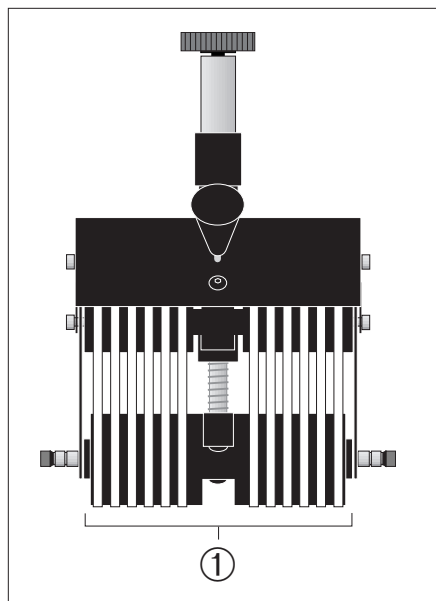
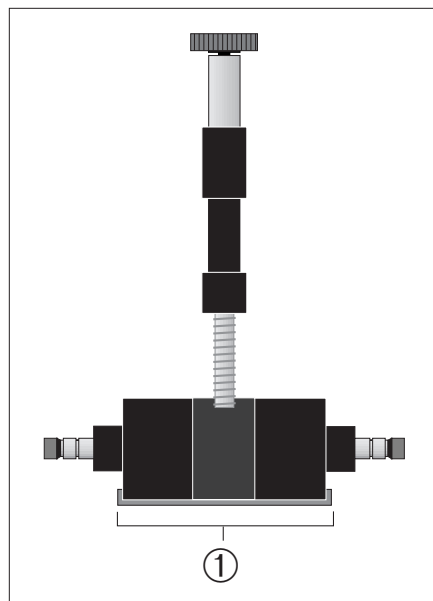

Figure 36. Advancing O-Ring Gate
Figure 38. Bar Gate
5. Wipe across O-rings (Figures 36 and 37), or angled wedge if applicable (Figure 38). First wipe in one direction, then the other.